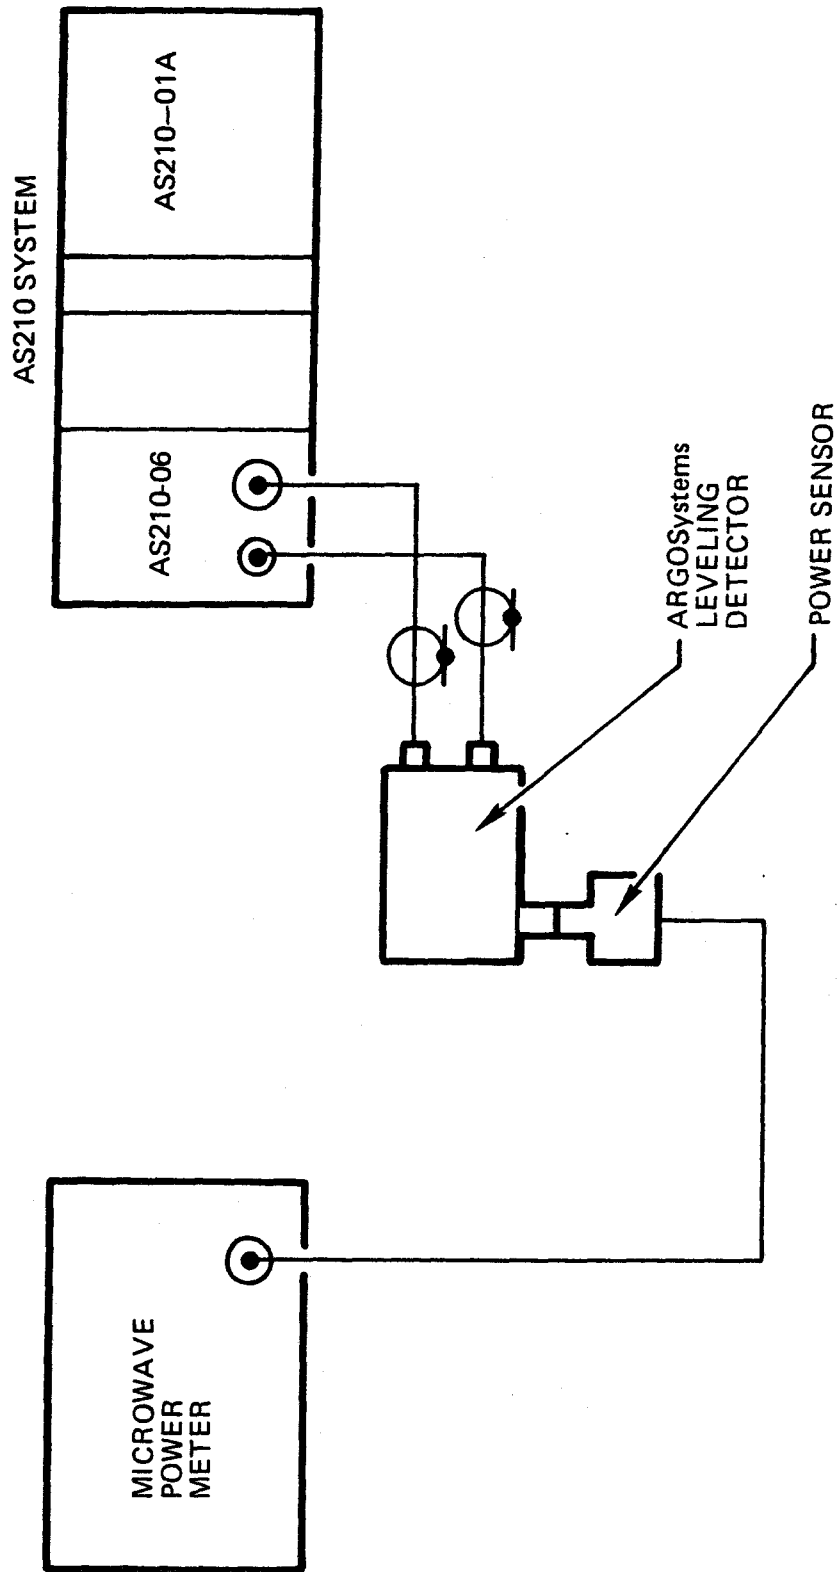

Figure 5-2 AS210-06 Microwave Frequency Generator Module RF Output Level Test Configuration
- B. Connect the equipment as indicated in Figure 5-2. Use an HP8481A Power Sensor as the power head. Turn power on to the AS210 system and the HP power meter. Wait for the AS210-01A Module Controller to display SEL?. If the AS210-01A responds with an error message, consult Part III, Calibration/Alignment Procedures, or Part IV, Troubleshooting Procedures. Note that ERR 0-00 indicates that the Rubidium frequency standard in the AS210 system is not phase locked and will require a maximum of 20 minutes warm-up time to achieve phase lock.
- G. Connect the equipment as indicated in Figure 5-2. Use an HP8484A Power Sensor as the power head. Turn power on to the AS210 system and the HP power meter. Wait for the AS210-01A Module Controller to display SEL?. If the AS210-01A responds with an error message, consult Part III, Calibration/Alignment Procedures, or Part IV, Troubleshooting Procedures. Note that ERR 0-00 indicates that the Rubidium frequency standard in the AS210 system is not phase locked and will require a maximum of 20 minutes warm-up time to achieve phase lock.